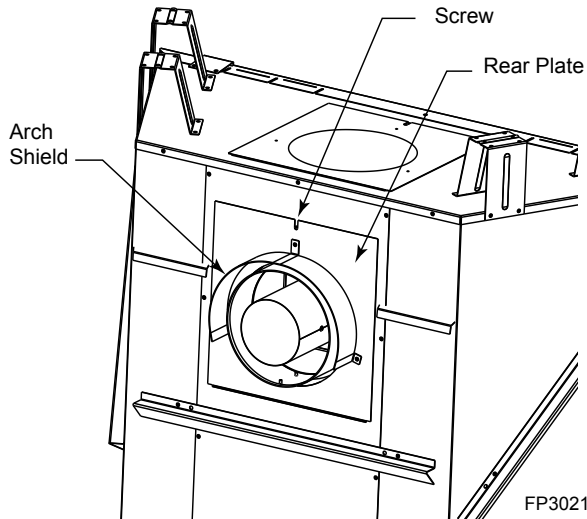
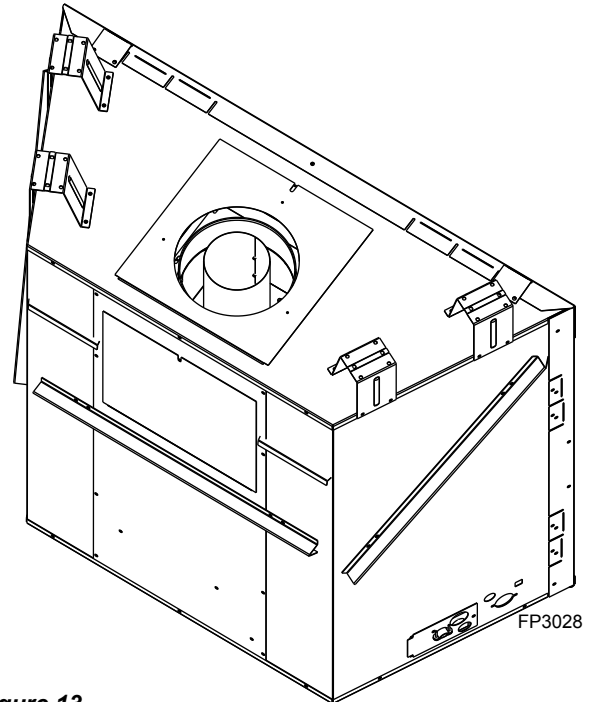

Figure 7 - Remove Rear Plate
Figure 13 - Completed Top Vent Conversion
1. Remove the rear plate by removing one (1) screw. Set aside. *Figure 7*
- 8. Install the plate and plates with collars removed in Steps 1-3 in reverse order onto the top of the unit. Install the top plate and large and small plates in reverse order into back of unit. *Figure 13*. **NOTE:** The arch shield is not needed for top vent applications and may be discarded. *Figure 7*